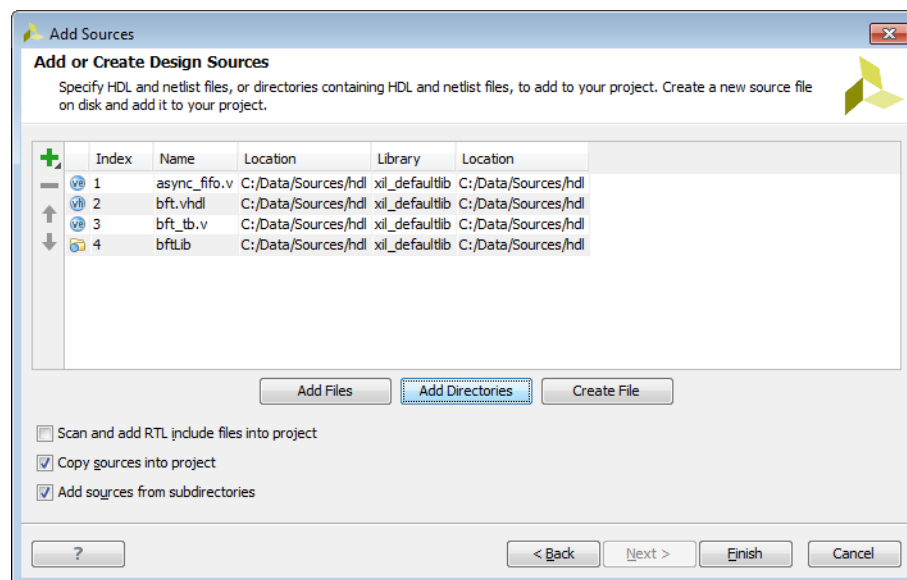

Figure 3-2: Add Sources Wizard—Add or Create Design Sources Page
- In the Add or Create Design Sources page (Figure 3-2), press the '+' button and select the **Create File** command from the sub-menu to create new source files.
3. In the Add or Create Design Sources page (Figure 3-2), set the following options, and click **Finish**.